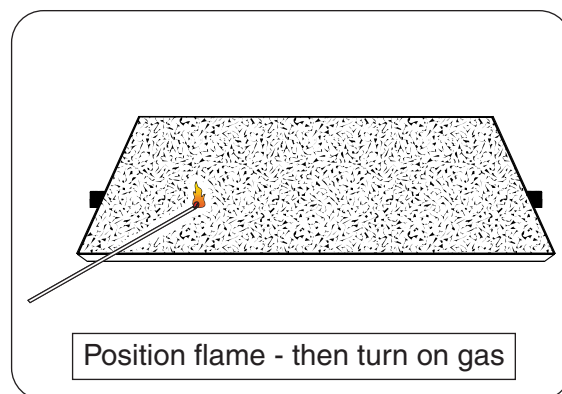

Fig. 19-1
3. Light a long-stem match or a long-necked butane lighter, and place the flame against the surface of the decorative media near the burner (Fig. 19-1).